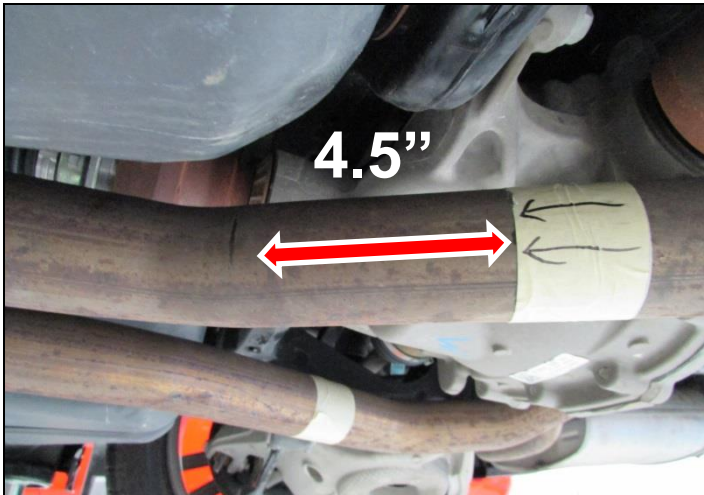

Figure 2
4. With a permanent marker, locate the tangent line – (This is where the bend ends and the straight section of the pipe begins) of the left side OE mid pipe and mark a straight line. Now mark another straight line exactly 4.5" after your tangent mark – (This is 4.5" in the direction of the rear of the vehicle). We suggest using masking tape to wrap around the OE mid pipe to ensure a straight cut. Draw arrows to ensure you cut at the correct side of the marking tape. **DOUBLE CHECK AND MEASURE TWICE BEFORE CUTTING.** See Figure 2.